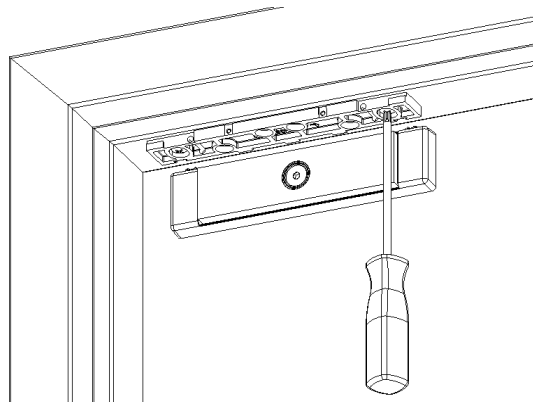

Figure 27. Tightening the Mounting Screws
5. ENSURE that the mounting bracket aligns with the marks, and TIGHTEN the mounting screws (see Figure 27, "Tightening the Mounting Screws").